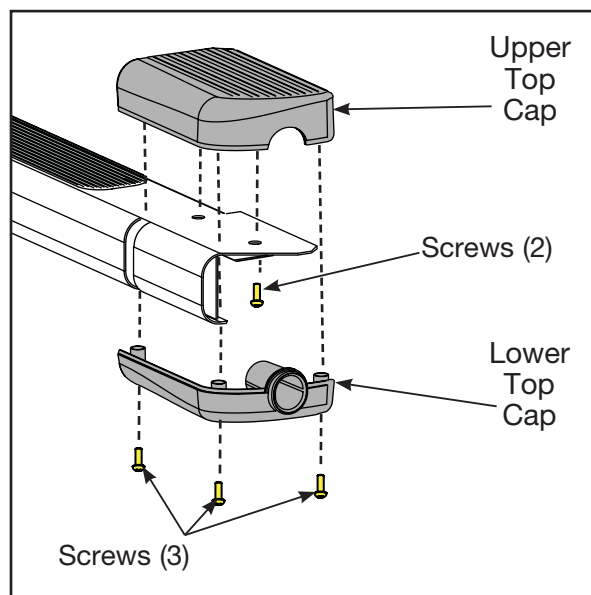

Figure 7
- B. Using a Phillips head screwdriver, remove the three screws securing each of the lower top caps to the upper top caps See Figure 7.
- C. Using a Phillips head screwdriver, remove the two screws securing each of the upper top caps to the top platforms See Figure 7.
- B. Using a Phillips head screwdriver, install the two screws securing each of the upper top caps to the top platforms See Figure 7.
- C. Using a Phillips head screwdriver, install the three screws securing each of the lower top caps to the upper top caps See Figure 7.